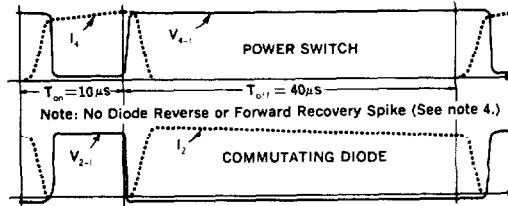

Figure 2. PIC645, 646, 647 Switching Waveforms
- No reverse recovery spike generated by commutating diode (See note 4. and Fig. 2.)
- In switching an inductive load, the current will lead the voltage on turn-on and lag the voltage on turn-off (see Figure 2). Therefore, Voltage Delay Time (t_{dv}) $\approx t_{di} + t_{ri}$ and Current Storage Time (t_{si}) $\approx t_{sv} + t_{fv}$.
- As can be seen from the switching waveforms shown in Figure 2, no reverse of forward recovery spike is generated by the commutating diode during switching! This reduces self-generated noise, since no current spike is fed through the switching regulator. It also improves efficiency and reliability, since the power switch only carries current during turn-on.